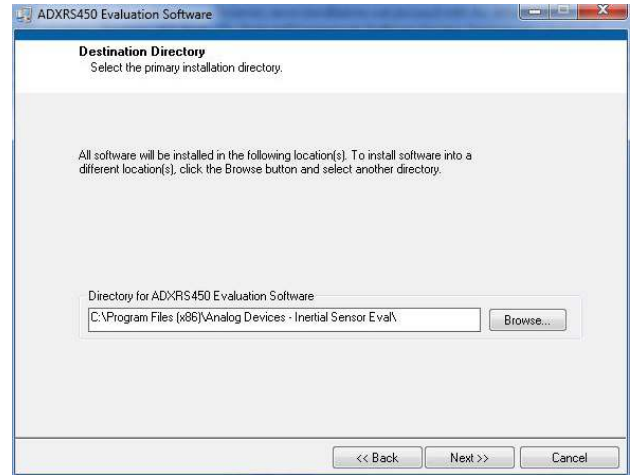

Figure 3. Destination Directory Selection
2. Select the destination directory. The installer autopopulates the names of the directories in which to store the software GUI and required National Instruments products (see Figure 3). You can change these directories; however, most installations can proceed with the default values.
1. Browse to **/ADXRS450/ADXRS450 Eval Software Installation/** on the CD and double-click on **ADXRS450 Install.exe**. Depending on your Windows settings, you may be prompted to allow the program access to your computer. The window that opens will be similar to Figure 3.